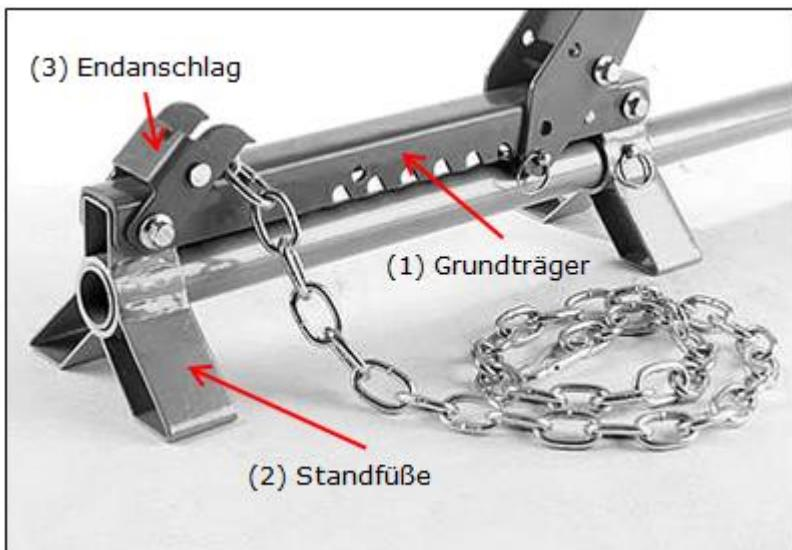

Figure 1
1. First, mount the base support (1) on the feet (2) with the end stop (3). To do this, use the screws provided (M10*55, washers M10 and the M10 screws that are to be mounted in opposite directions. Please refer to Figure 1 for the corresponding structure.